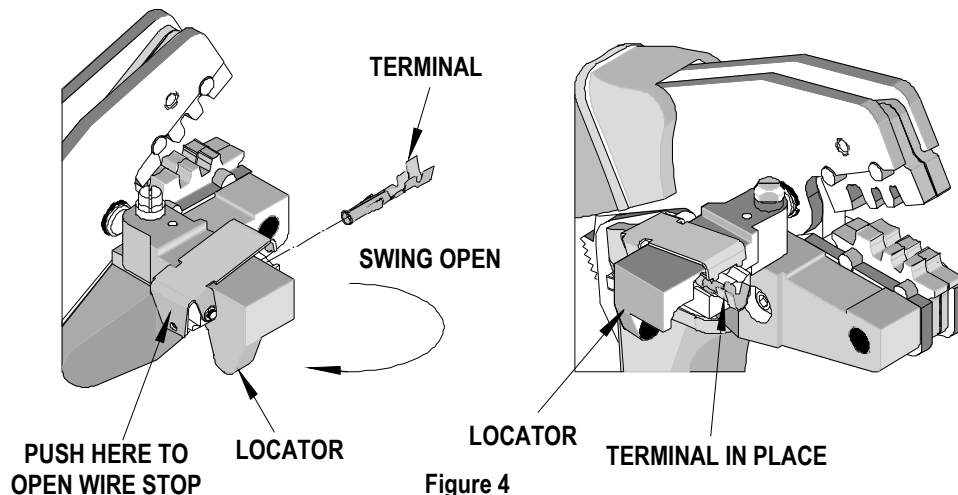

Figure 4
2. Swing the terminal locator away from the crimp tool shown in Figure 4. Some terminals with large insulation grips may interfere with the crimp tooling when swinging the locator into position. The terminal must then be loaded into the locator in the closed/crimp position.
3. When using the locator, press down on the wire stop on the locator as shown in Figure 4. Insert the proper terminal into the proper nest opening. Make sure when choosing the nest opening, it will correspond with the A, B, or C profile on the hand tool.